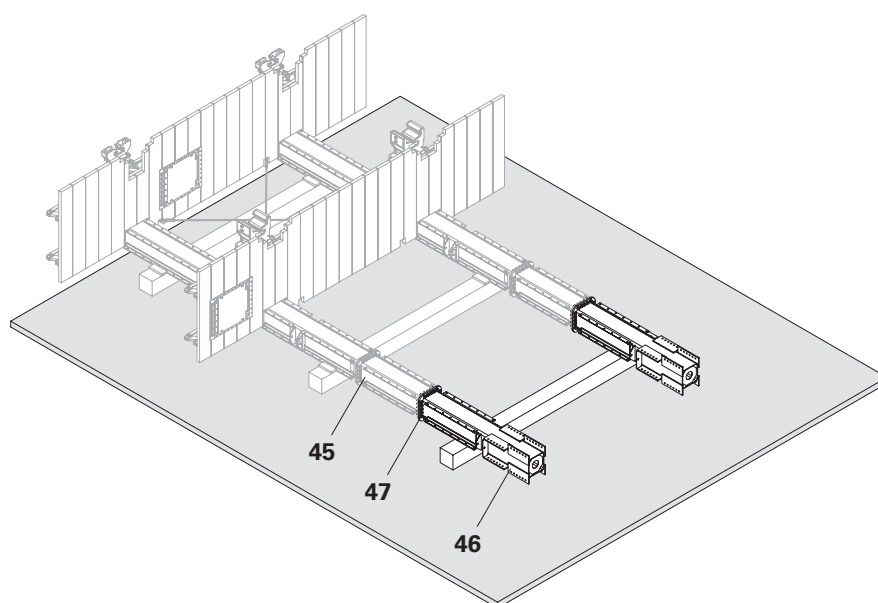

Fig. B5.02
1. Screw the Vertical Post Top 2100 ACS (46) onto the Vertical Post Intermediate 1200 ACS (45) with the HV-Bolt Set M20x75 (47). (Fig. B5.02)